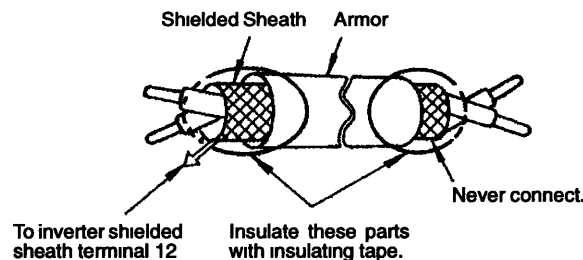

Fig. 12 Shielded Wire Termination
(2) Precautions on Control Circuit Wiring
- Use twisted shielded or twisted-pair shielded wire for the control circuit line and connect the shielded sheath to inverter terminal 12. (See Fig. 12.) Wiring distance should be less than 50 m.